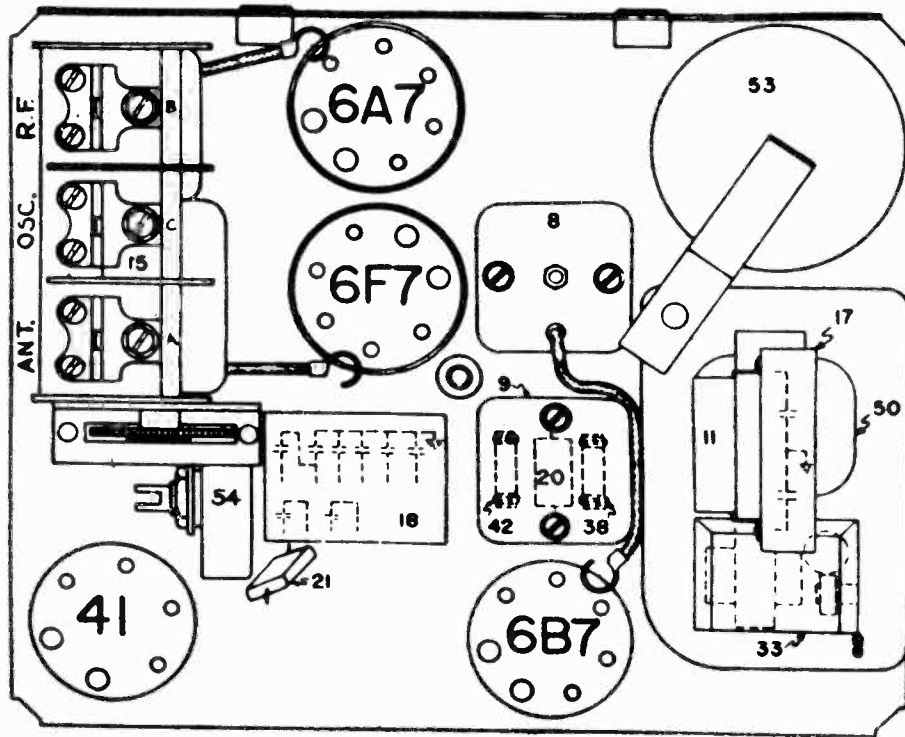

FIG. 2--PARTS LAYOUT--Top View
- (d) Peak each of the I.F. trimmers on the 2nd I.F. coil, Illustration #9 on Fig. 2.
- (e) Then peak each of the trimmers on the 1st I.F. coil, Illustration #8 on Fig. 2.